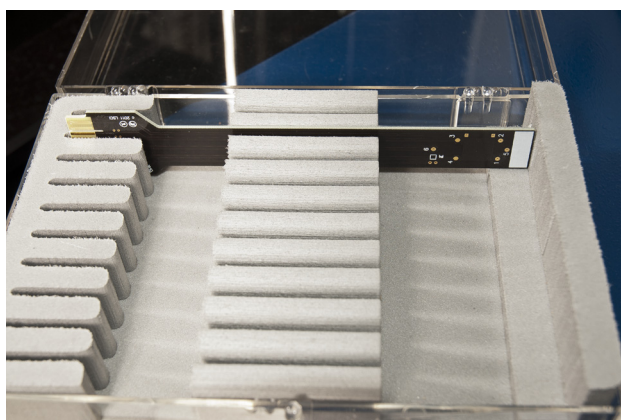

FIGURE 4-19 Sample card protective case: proper storage
9. Place the sample card in its protective case (FIGURE 4-19), or if you are ready to mount a sample onto the card, refer to section 4.3.2.6 to mount a sample.